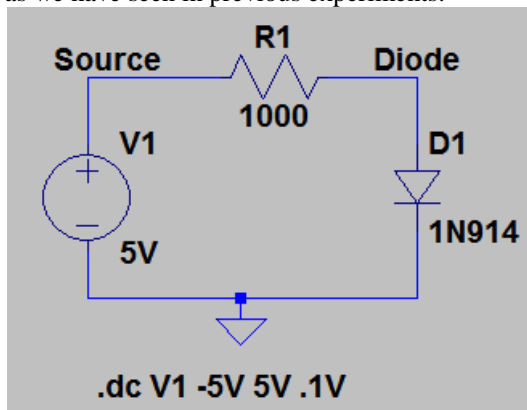

Figure A-8.
- Modify your LTspice schematic by replacing R2 with D1, a 1N914 diode, as shown in Figure A-8. You will find this diode in the parts list, as we have seen in previous experiments.
- Wire the circuit shown in Figure A-8 on your protoboard. The output of the Analog Discovery function generators is limited to $\pm 5V$, which is not quite enough to identify the features of all of the diodes we will be using. However, we will live with it for now and possibly return to our diode study when we can use amplifiers to extend the range of measurement.